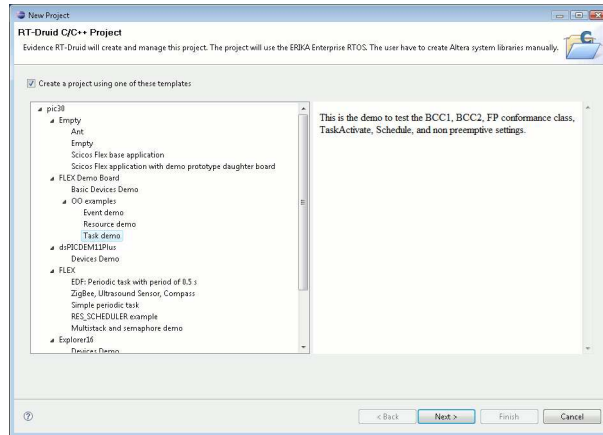

Figure 5.2: Select a template for your project.
2. A Dialog box appear. Please select a template for the new project, as in Figure 5.2.